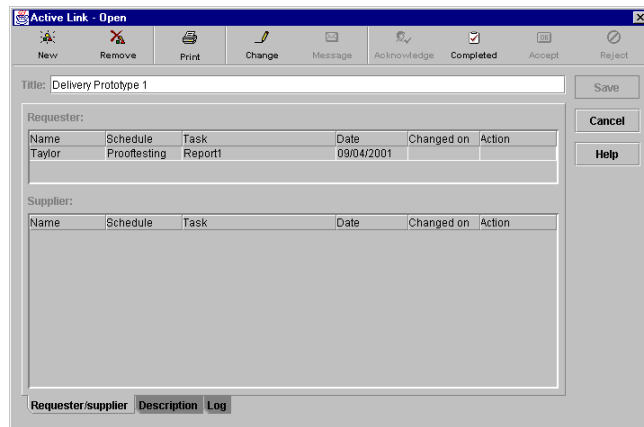

Figure 80: Definition of the Active Link
2. In the *Active Link Properties* dialog box you enter a title for the requested preliminary activity. The data of the originating activity is displayed directly below the title in *Requester* (Figure 80).
3. Click on the *New* button. In the selection dialog box choose a schedule or a user to which/whom the Active Link is to be assigned. Confirm your choice with *OK* (Figure 80)